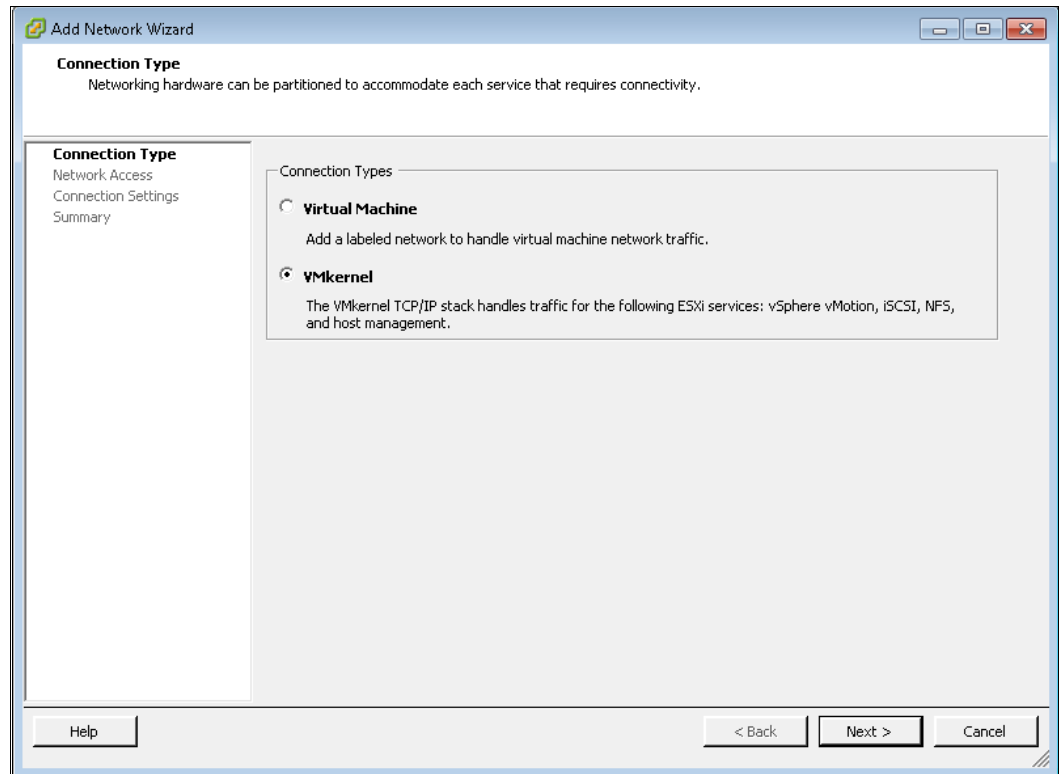

Figure 4-9 Add Network Wizard
2. Click **Add Networking** to start the Add Network Wizard, as shown in Figure 4-9. Select **VMkernel** and click **Next**.